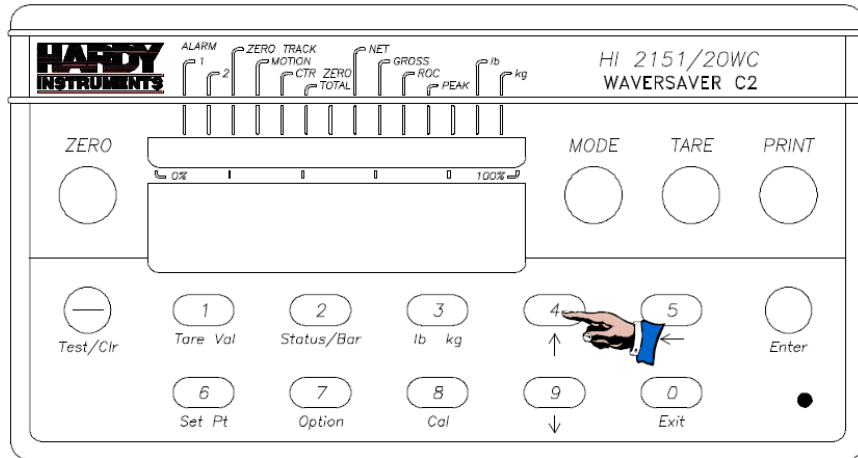

Figure 3-2
2. Press the “4/Up” (↑) arrow button until ProFi appears on the display. (See Fig. 3-2)